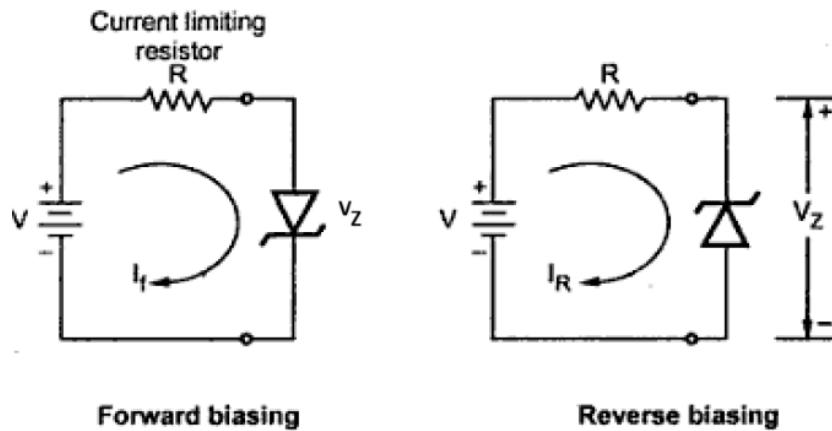
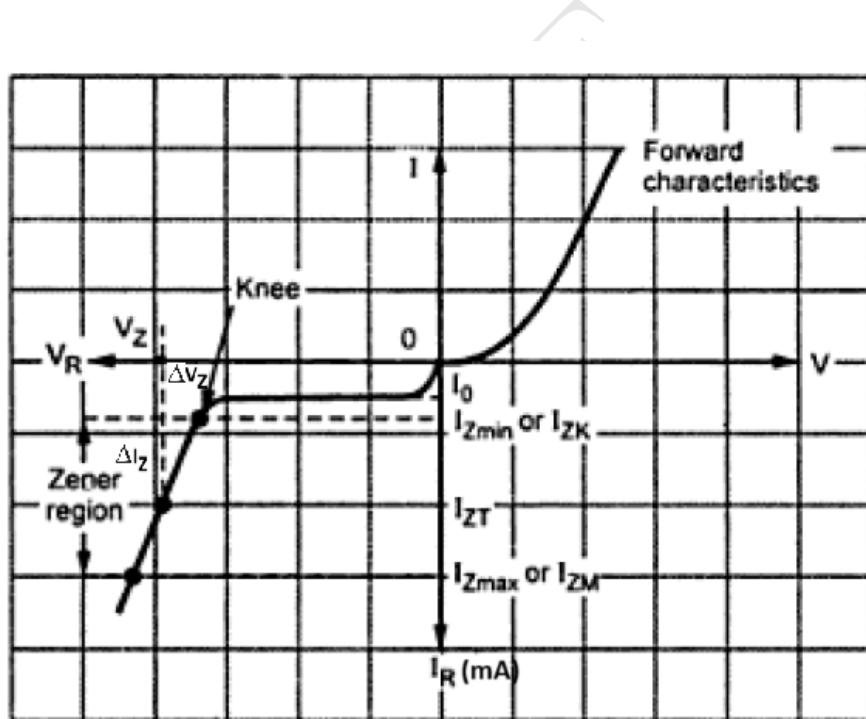

Figure 1.22: Forward and Reverse biasing of the Zener diode
Figure 1.23: VI Characteristics of the Zener diode
The forward and reverse biasing of the zener diode is shown in the Figure 1.22. The VI characteristics of the Zener diode is shown in Figure 1.23
- In the forward biased condition, As long as forward voltage is less than barrier voltage, the current flowing is very small. As it increases beyond this voltage the depletion region becomes very thin and current increases suddenly. This increase in the current is exponential as shown in the Fig. 1.23.